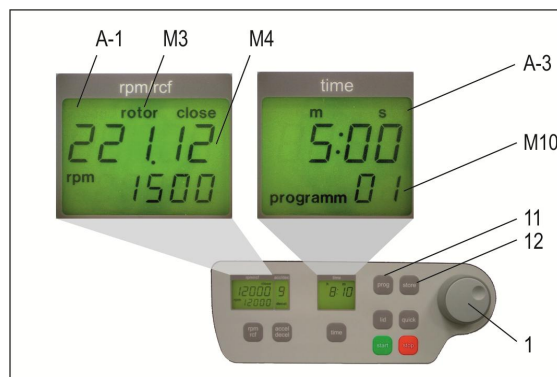

Figure 21
Put the needed rotor into the centrifuge. By pressing the key „prog“ (11) in the display „time“ (A-3) appears the word „program“ (see figure 21). With the adjusting knob (1) you can chose the desired program number.
If a program number is already occupied in the display „rpm/rcf“ (A-1) will appear the words „rotor“ (M3) and „22x.xx“ (M4) (see figure 21). In case of free program numbers it appears 0.